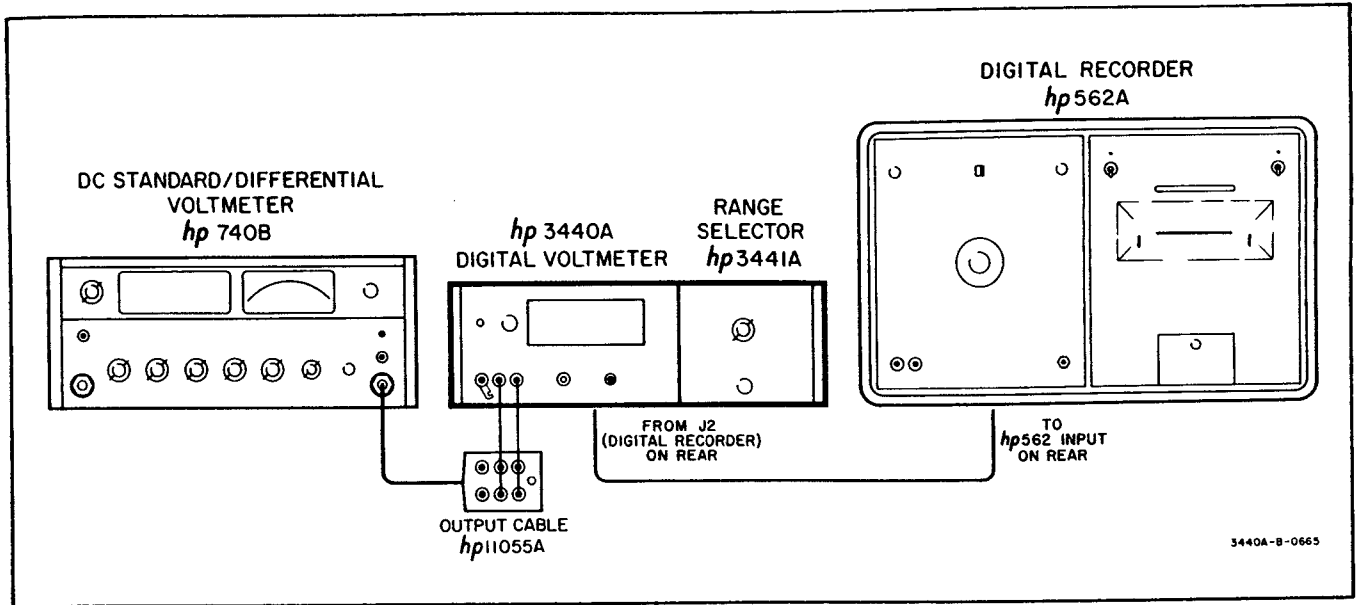

Figure 5-4. Digital Recorder Check
- Connect Model 3440A as shown in Figure 5-4.
- a. Connect Model 3440A and a digital recorder as shown in Figure 5-4.